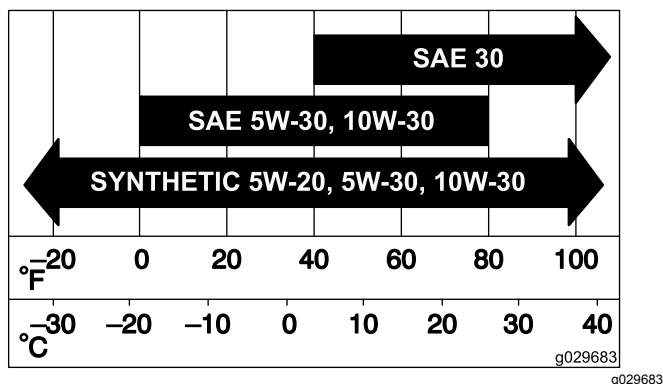

Figure 73
3. Release the latches on the air cleaner and pull the air-cleaner cover off the air-cleaner body (Figure 73).
5. Gently slide the filter out of the air-cleaner body (Figure 73).
2. Carefully slide the filter into the air-cleaner body (Figure 73).
3. Install the air-cleaner cover and secure the latches (Figure 73).